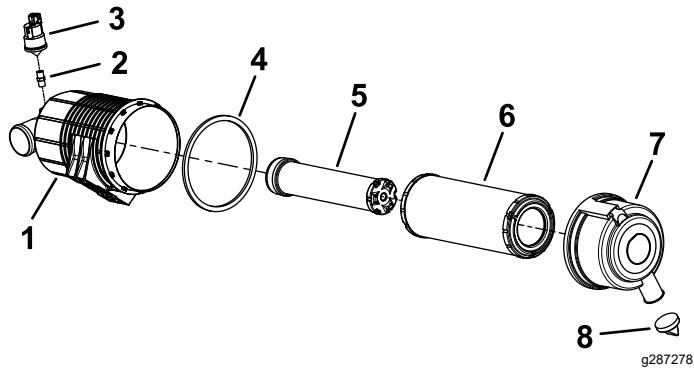

Figure 39
- Service the air-cleaner filter and safety element when the air-cleaner indicator shows red (Figure 39).